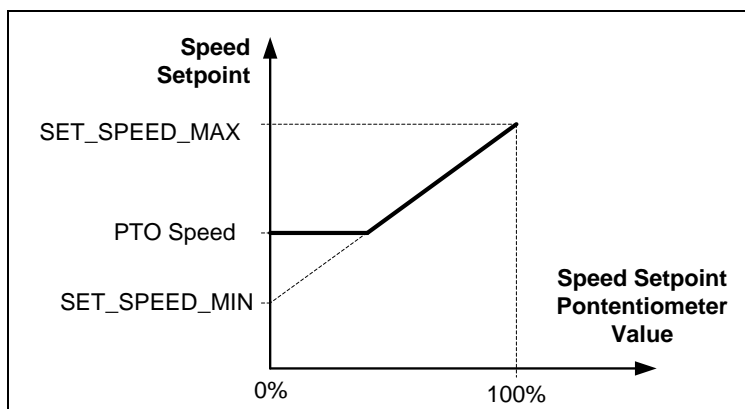

Figure 4-11. PTO Operation In Drive-by-Wire Mode (PTO Input Active)
- PTO speed setpoint operation may be overridden by pedal setpoint if the latter is higher. As a result, PTO speed will be treated as a minimum speed setpoint. See Figure 4-11 for resulting desired speed curve. This operation may be disabled in configuration.